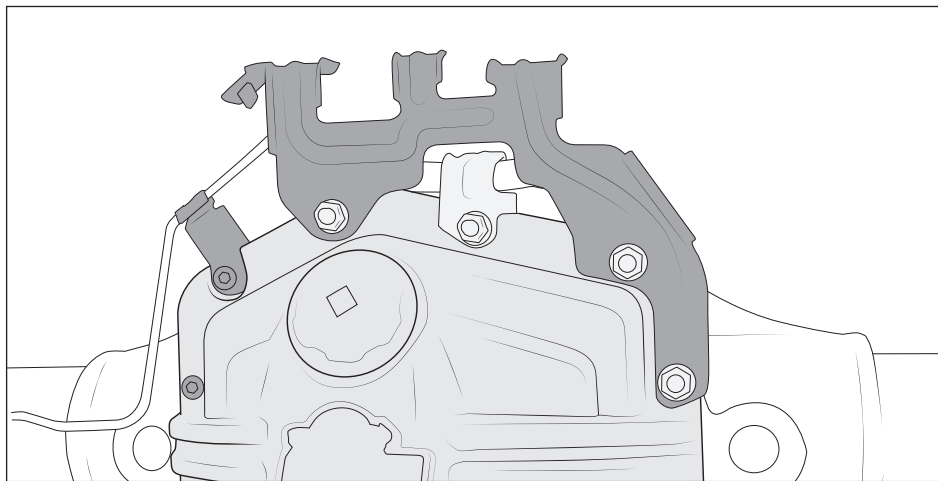

*Figure 2*
7. Re-Install bracket with final bolt M8 bolt (fig. 2).